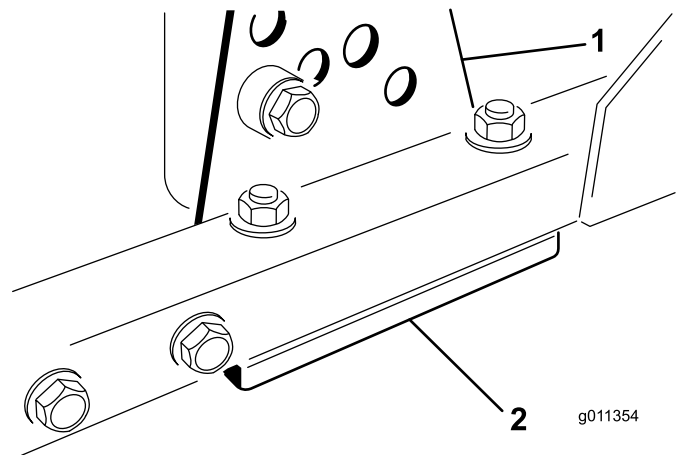

Figure 13
- Remove the height-of-cut bracket, (front, left, or right) from the deck frame (Figure 13).
- Adjust 0.060 inch (1.5 mm) shims and/or 0.030 inch (0.7 mm) shim between the deck frame and bracket to achieve the desired height setting (Figure 13).